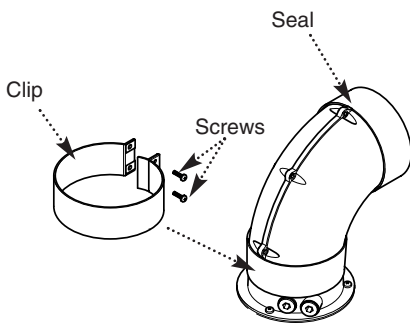

Fig. 30
9. Remove the screws from one of the clips provided. Prise the clip apart and fit it over the seal. Set the elbow to the required angle (Fig. 30).